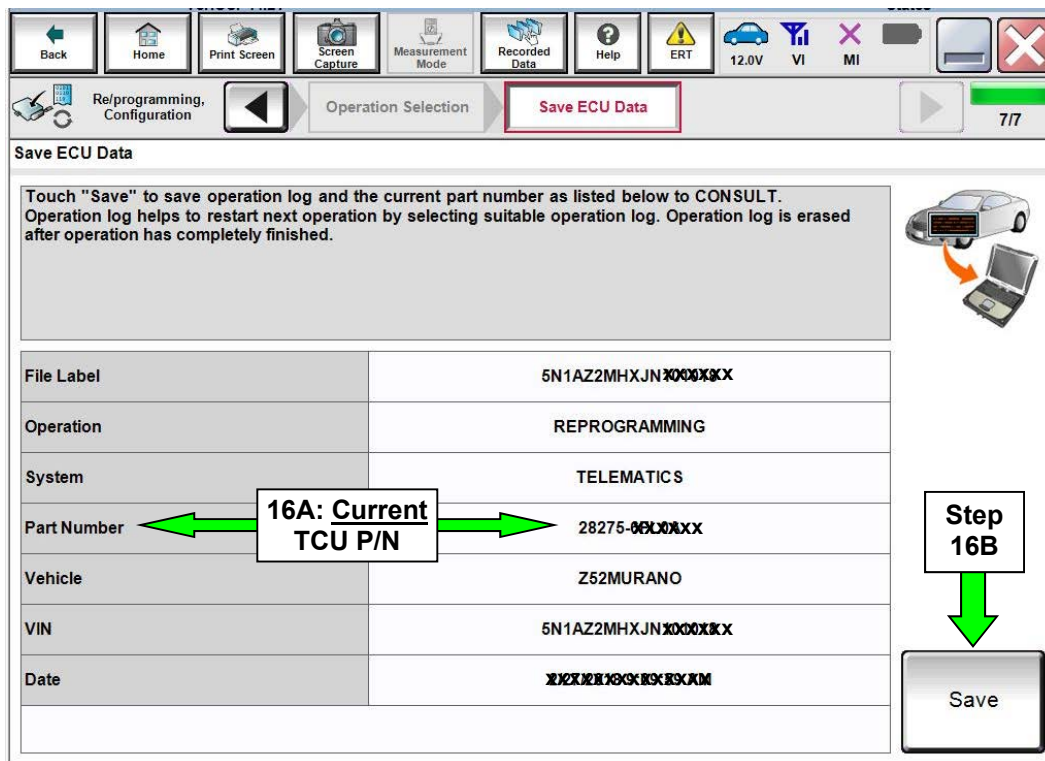

Figure 8
16. When you get to the screen shown in Figure 8, confirm this bulletin applies as follows.